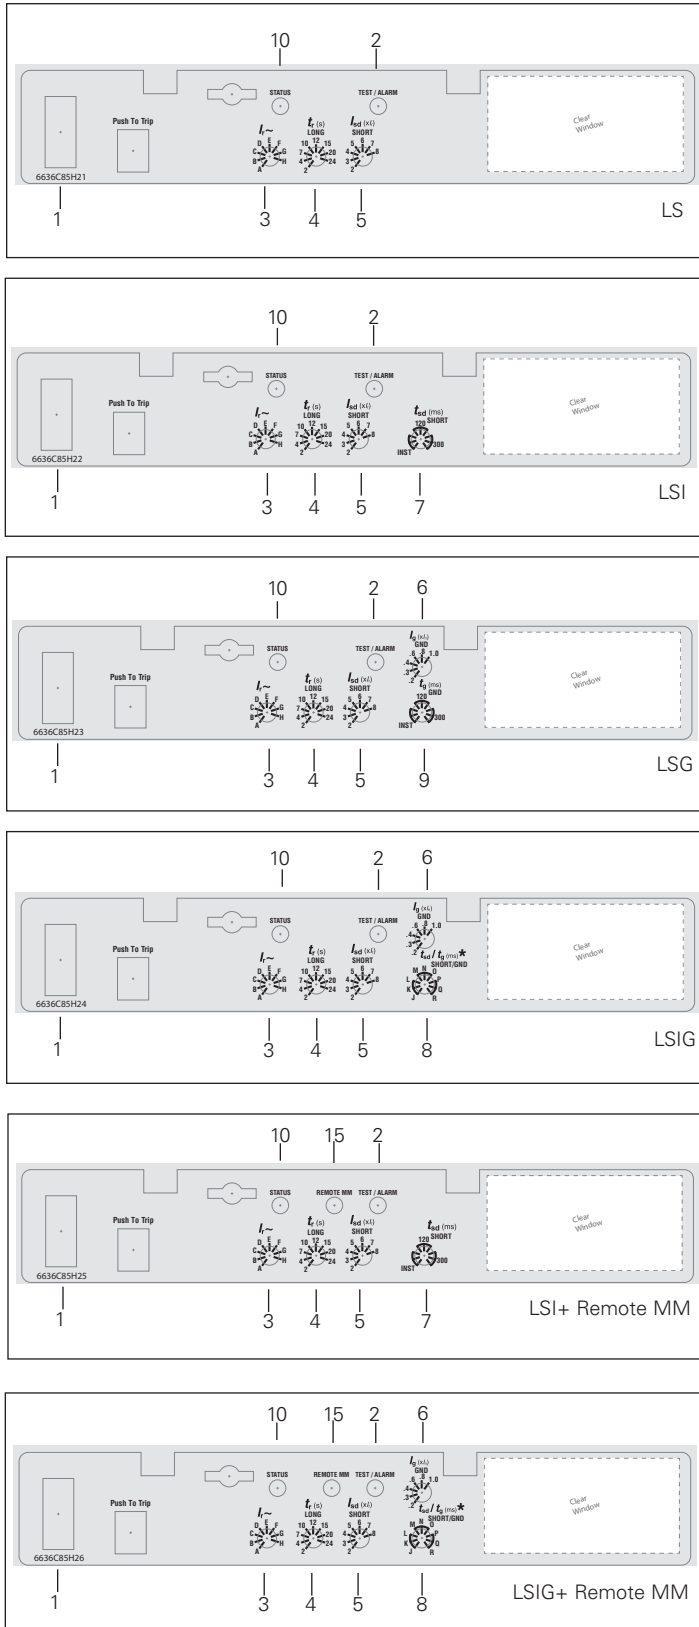

Figure 10. LES / MES Trip Units Settings.
Finish the installation by installing the cover on the base, as shown in Figure 10.
A. Trip unit controls and settings (refer to Figures 10 and 11).